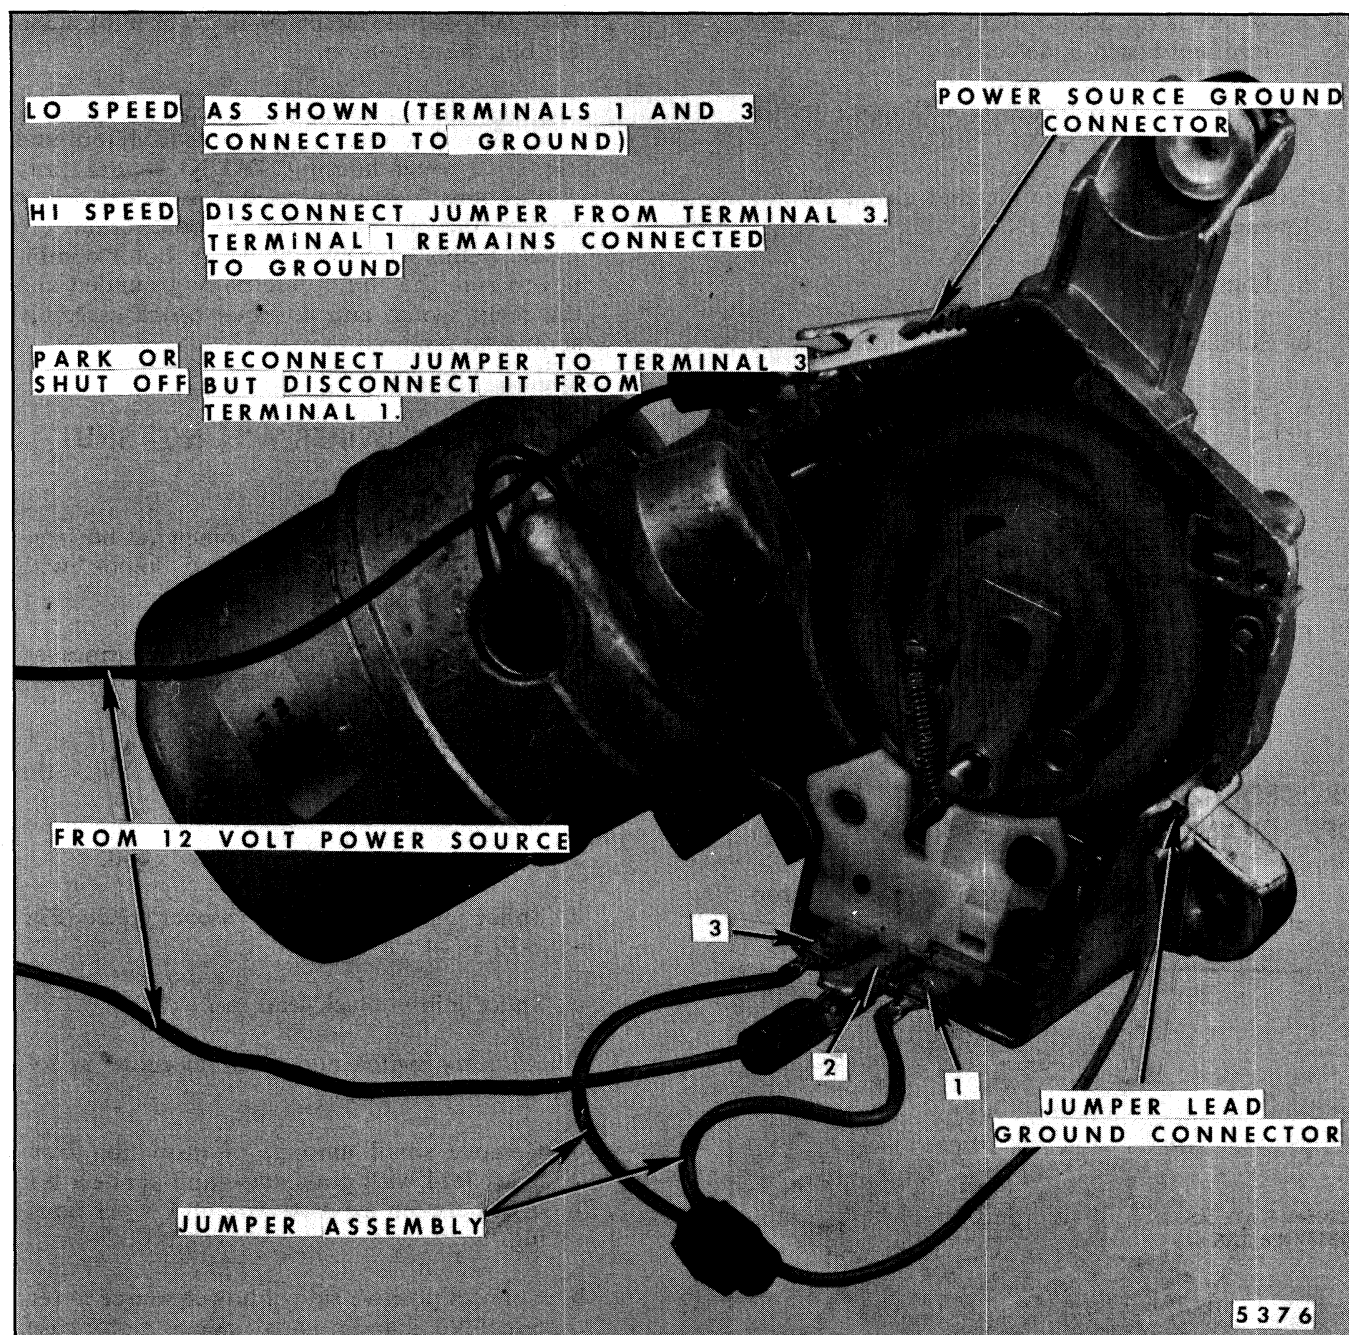

Fig. 2-31-Bench Checking Wiper Motor
independently of the car wiring or wiper switch as shown in Figure 2-31. Check wiper operation in "OFF", "LO" and "HI" positions.
2. Connect 12-volt source to wiper, feed side to center terminal, ground side to gear housing (Fig. 2-31). Do not connect jumper to terminal 1 and 3.
2. Check wiper for "LO" speed operation (Fig. 2-31). If wiper has "HI" speed only, check the following items:
black lead that connects to wiper terminal No. 3. Refer to Figure 2-31 for terminal No. 3 location.
2. Connect wiper to operate in "LO" speed (Fig. 2-31). Connect ammeter (range 0-30 amps.) in feed wire circuit to wiper and observe current draw. Allow motor to run until it becomes hot (see Specification Chart, Fig. 2-48).